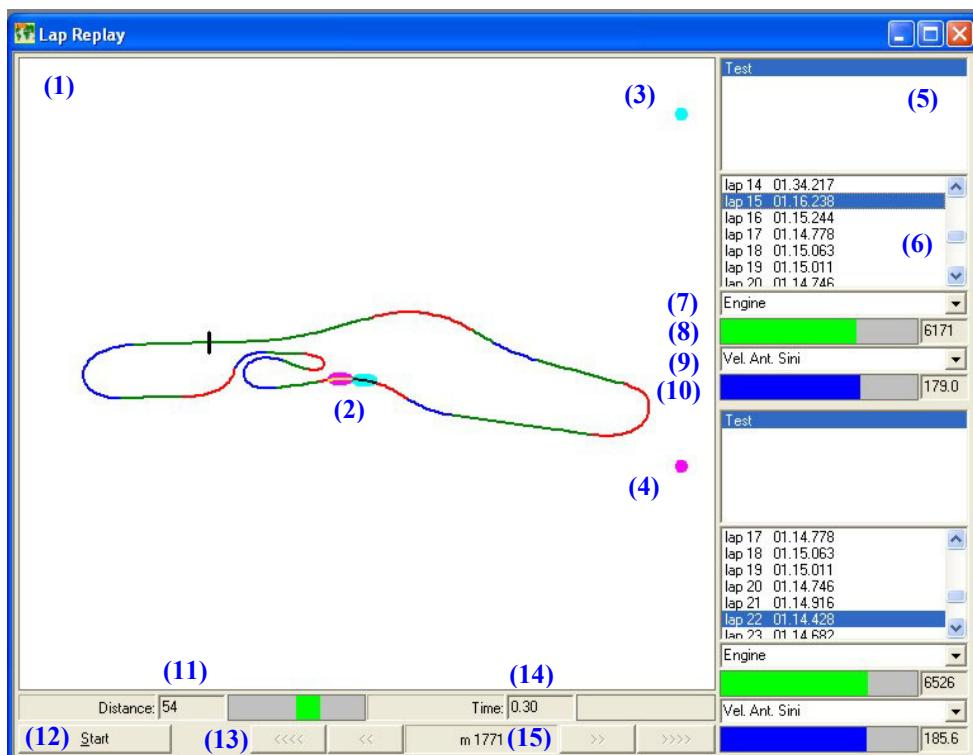

Fig. 7.1– Lap replay window
The Lap replay dialog window shows a track drawing (with different colours for each part) and two coloured cursors (one for each lap) moving on the track (signed (2) in Figure 7.1).
The layout of the Lap replay window is shown in Figure 7.1.